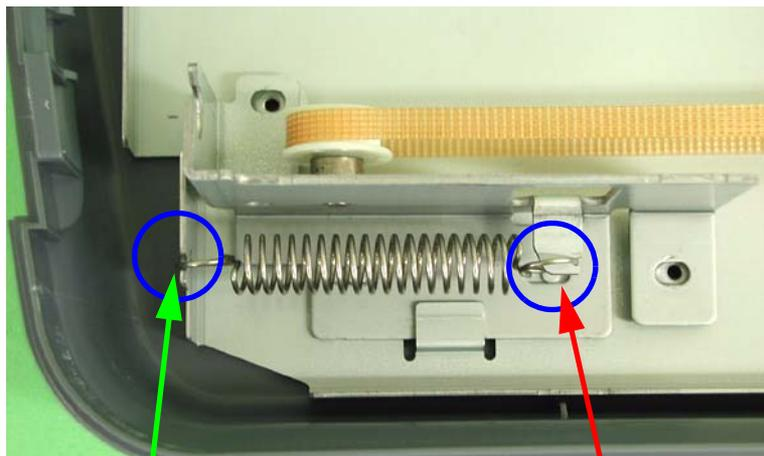

Figure 5-2. Timing Belt Tension Adjustment (2)
- Attach the tension spring to the two hooks on the driven pulley assembly. (See Figure 5-2)